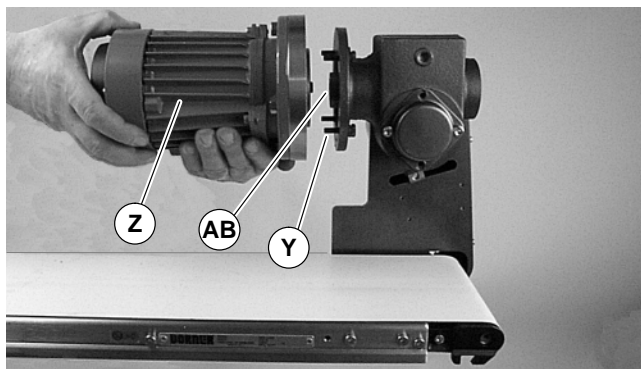

Figure 23
5. Install adapter flange (AN) on new motor. Install screws and nuts (AM) and tighten.
6. With key (AB of Figure 23) in keyway, slide motor with adapter flange (Z) and gear reducer together. Install screws (Y) and tighten.